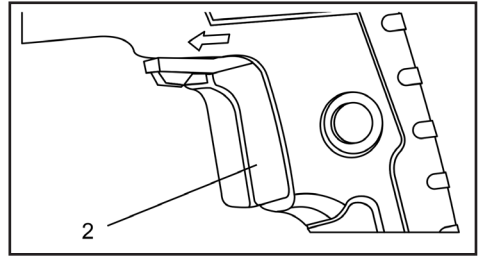

Fig.2
- To start drill, gently squeeze the trigger switch (2) (Fig. 2).